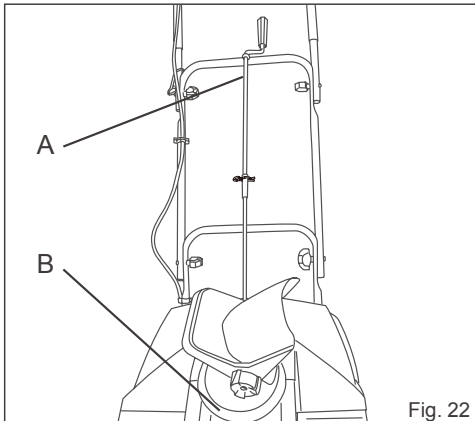
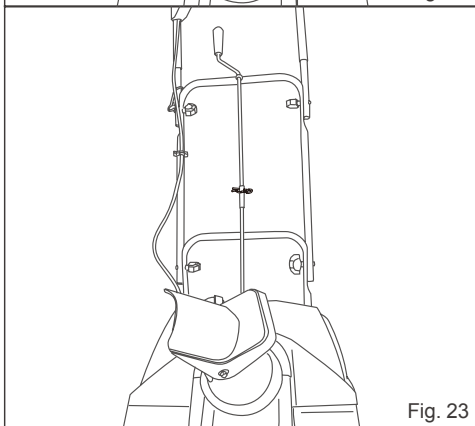

Fig. 22
Fig. 23
- The discharge chute can be adjusted 180 degrees by rotating the chute crank. Rotate the chute control crank clockwise to move the discharge chute to the left (Fig. 22) and counter-clockwise to move the chute to the right (Fig. 23).
**NOTE:** A little lubricant, will provide a smoother operation of the chute (spray at points A and B as indicated in Fig. 22).